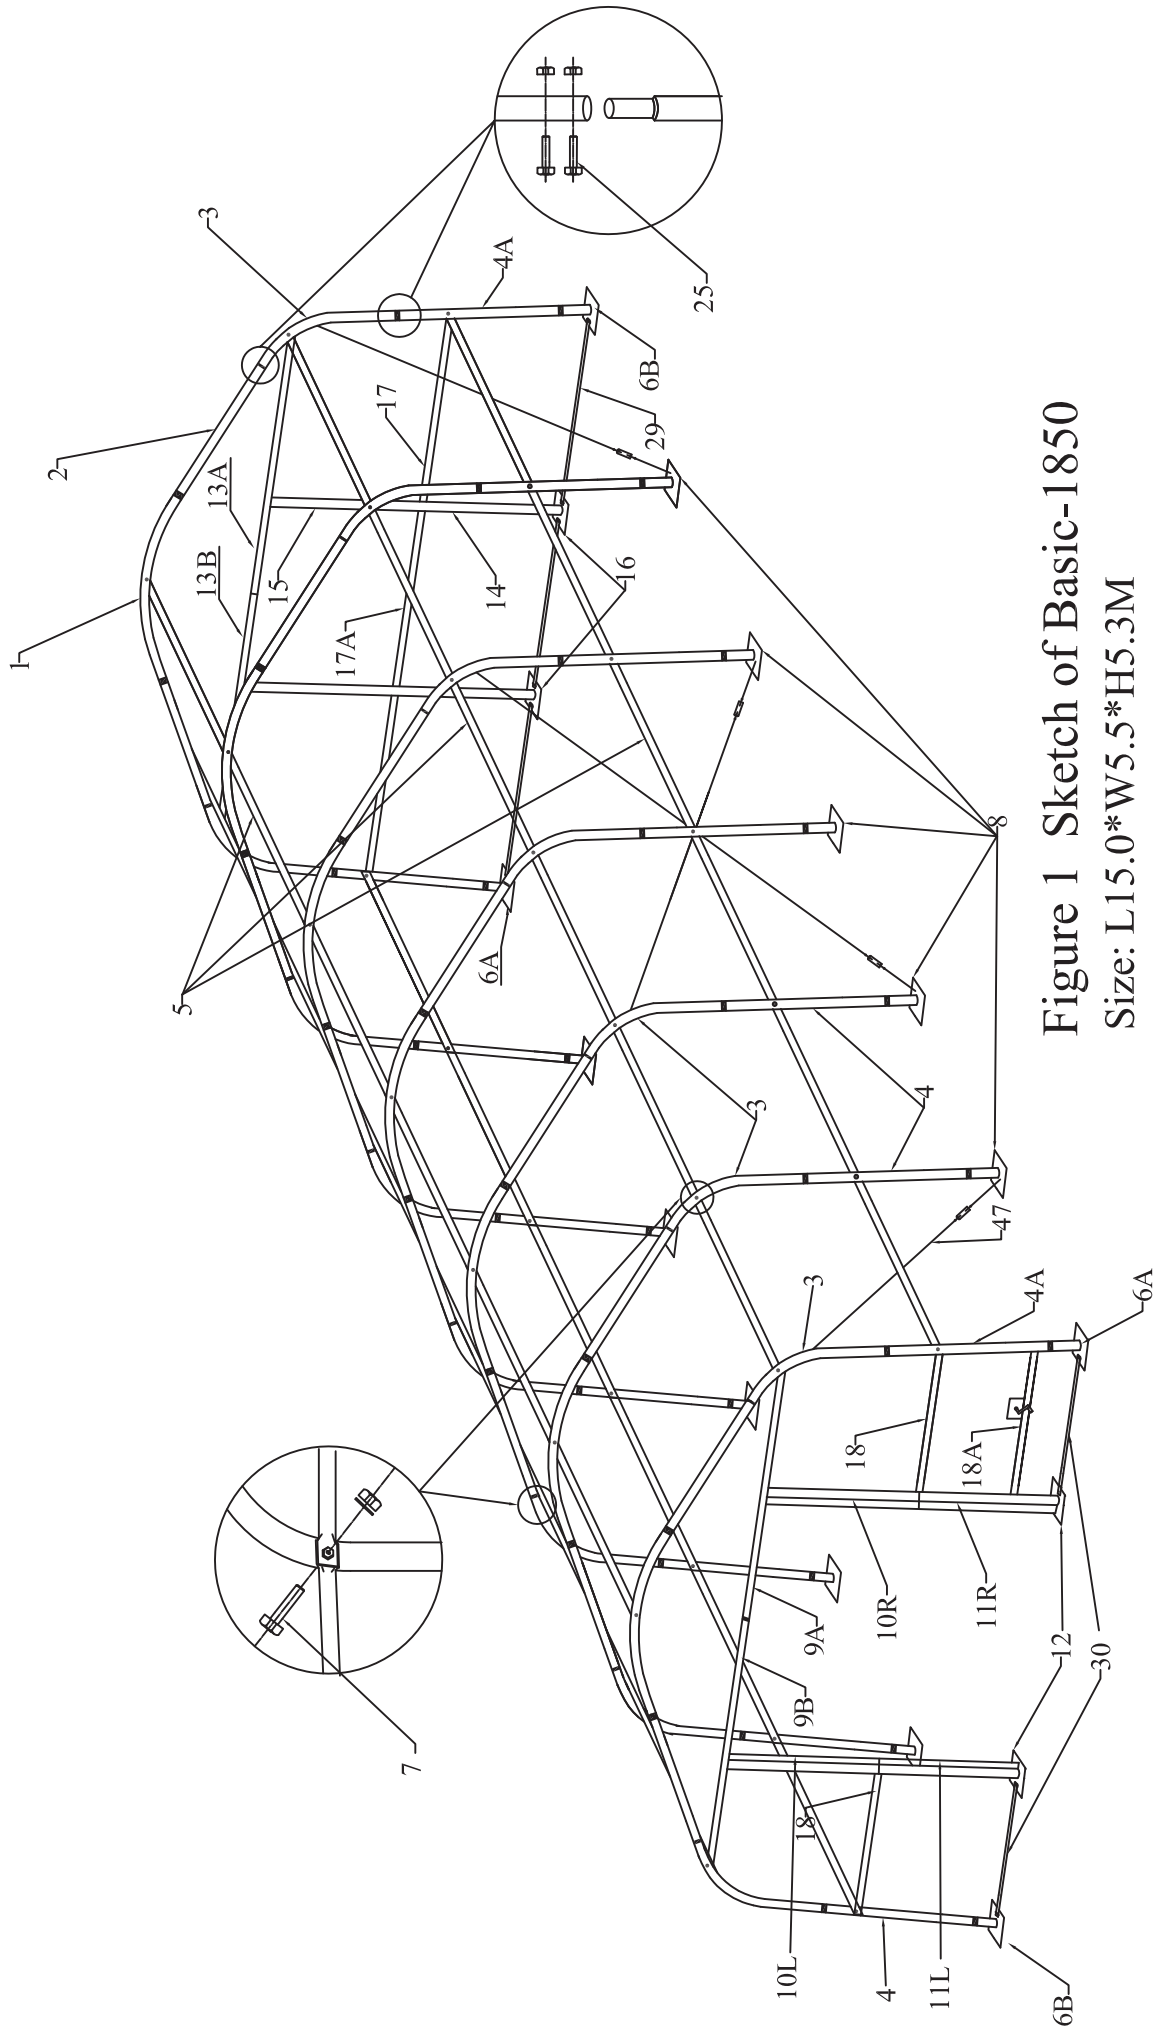

Figure 1 Sketch of Basic-1850
4. Please refer to Figure 1 for the directions of the angle (No. 20, 47), the right angle outside.